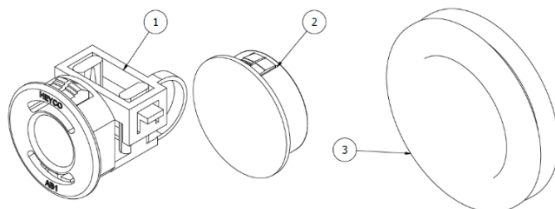

Figure 10 - Thermino Heat Battery Grommets & Strain Reliefs
- Remove the respective rubber grommets (Item 3 - Figure 10) in the outer housing and cut the centres (with a cross) with a knife. Re-insert the cut grommets. Do not cut the grommets in place, as this may damage the VIP.
- (Refer to Figure 10) Move the cable strain relief fittings (1) to the side you wish to make the entries / exits. Cover all other holes in the enclosure with the supplied blanking grommets (2).